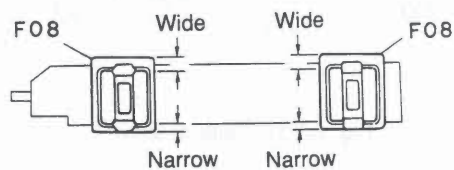

Fig. 2.12.2
- (1) Reassemble F08 (UD S Cam Guide SL) to F07 (Mecha UD Sub Cam SL) as shown in Fig. 2.12.2.
**NOTE:** Reassemble F08 (UD S Cam Guide SL) so that their wider sides come upper as shown in Fig. 2.12.2.